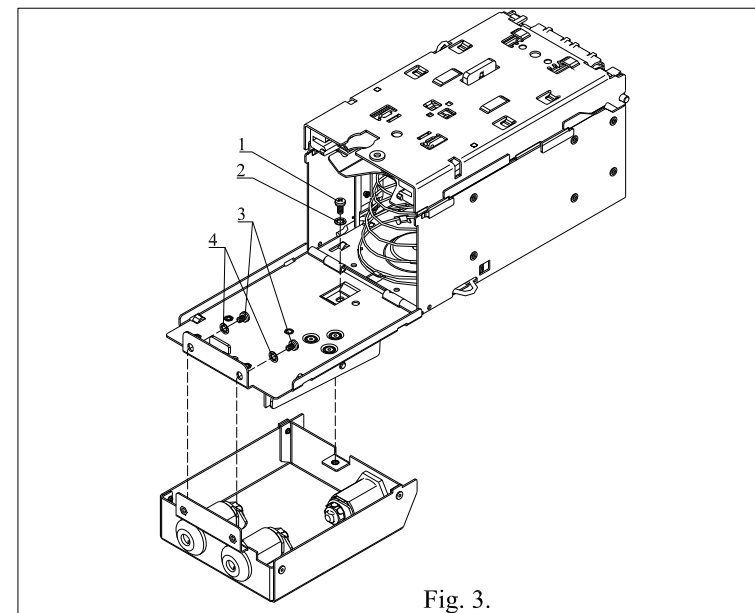

Fig. 3.
6. Mount the faceplate #5 back to its original place (first insert tabs of the faceplate into the holes of the cassettes cover then lock it with the screw #1 and washer #2, screws #3 and washers #4) (Fig.3)